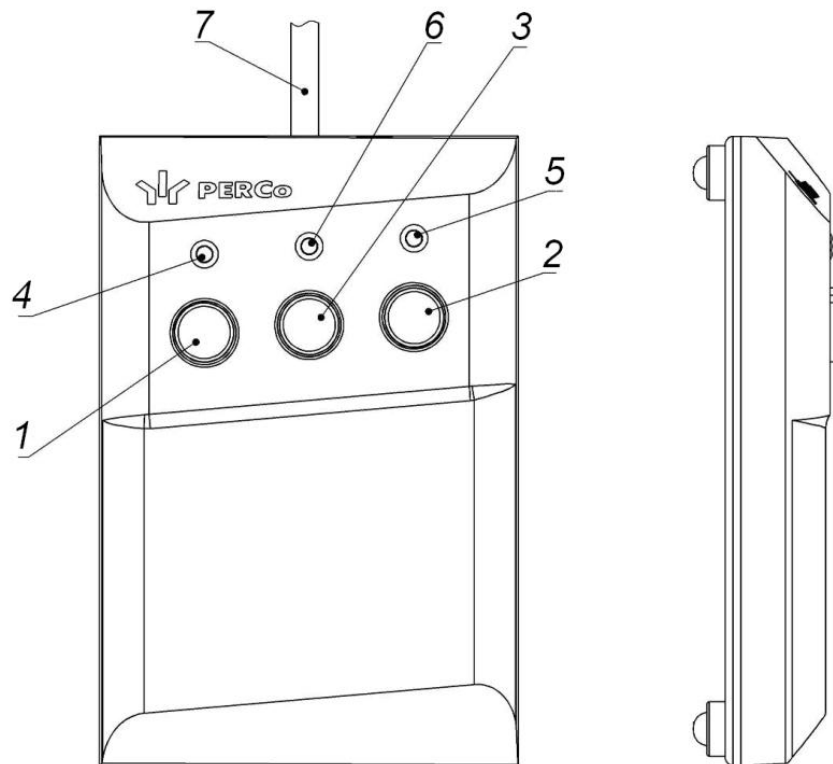

Figure 3. RC-panel design and overall dimensions
RC-panel (12) is connected to the IP-Stile housing with an RC-panel cable. RC-panel design and overall dimensions are shown on Fig. 3.